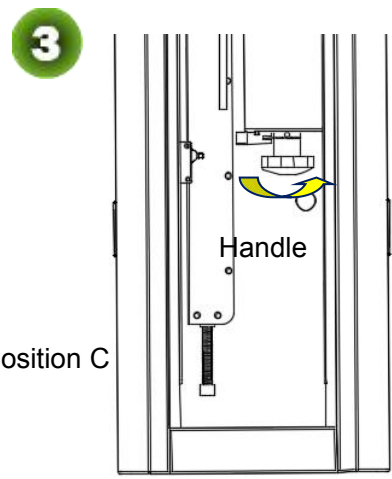

Figure 3-2C
- 3) Use the motor handle to lift the boom in the case of a power failure, See Figure 3-2C.